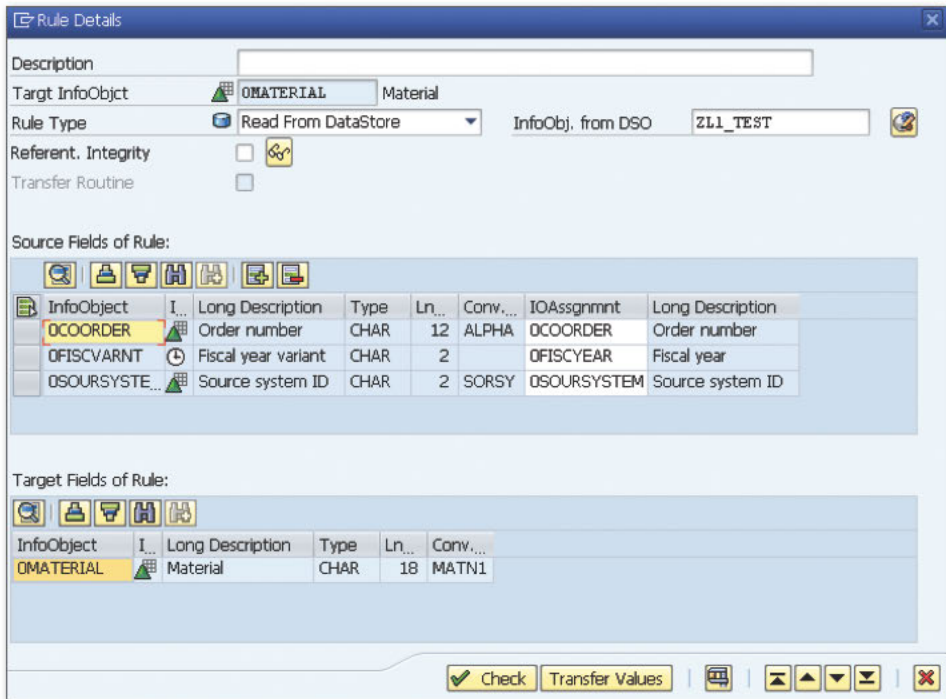

Figure 3 Rule Details Screen to Provide the Mapping of DSO InfoObjects to the Source Structure Fields
5. Press **[Enter]**, and the system shows the primary key objects of the lookup DSO. Map the lookup DSO primary key to the respective source structure fields. The mapping can be done by entering the source structure fields in the various columns in Figure 3.